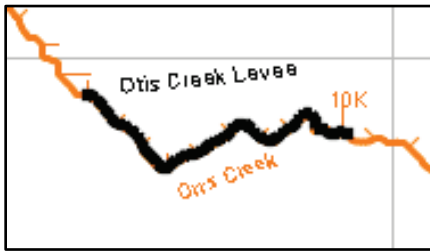

Figure G.14 A Levee Added to the Schematic
- The levee will now appear on the schematic as a black line, as shown in Figure G.14.